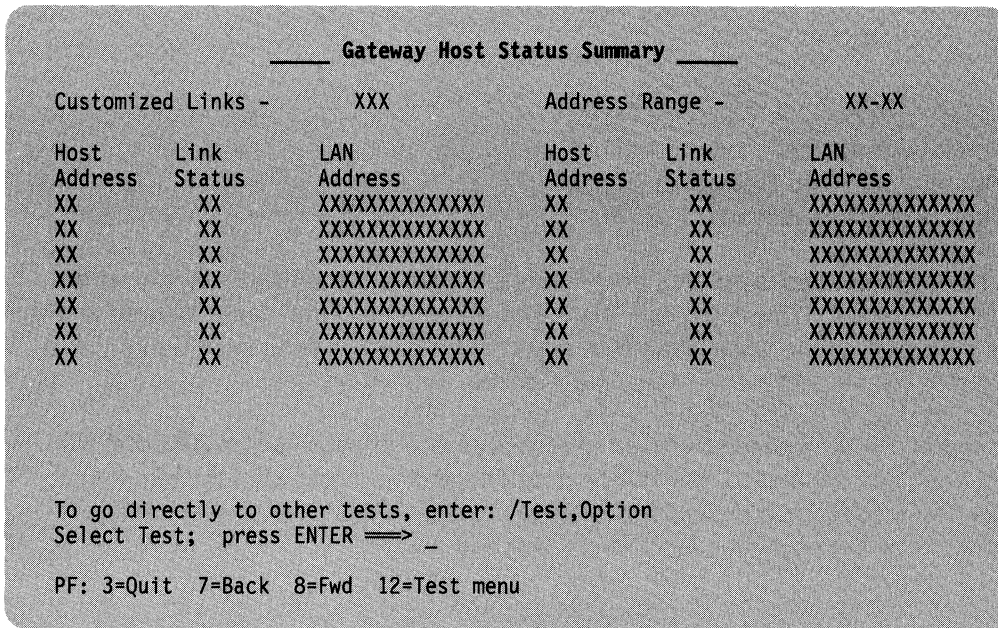

Figure 4-48. Example of a Gateway Host Status Summary Panel
**Test 9, Option 8:** Displays the number of customized links and host address ranges. For each customized link, the host address, the host link status, and the LAN address are displayed. The number of configured links and host address range can reflect downgraded values differing from the original configuration. (Run /2,2 to see the original values.) See Figure 4-48 on page 4-68 for an example of the gateway Host Status Summary panel.